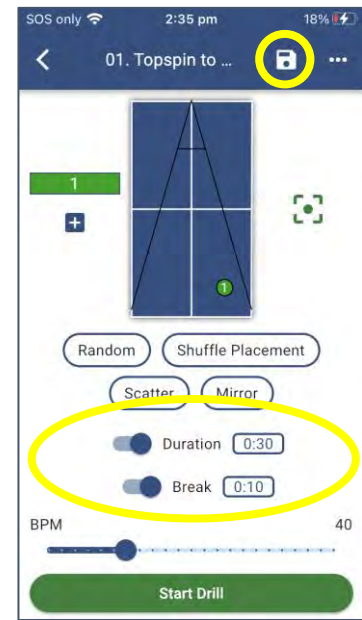

Figure 3-50
- Press the Break Toggle Switch to move it to the ON position. (Figure 3-50)
- Save the Drill as desired by pressing the Save button. (Figure 3-50)